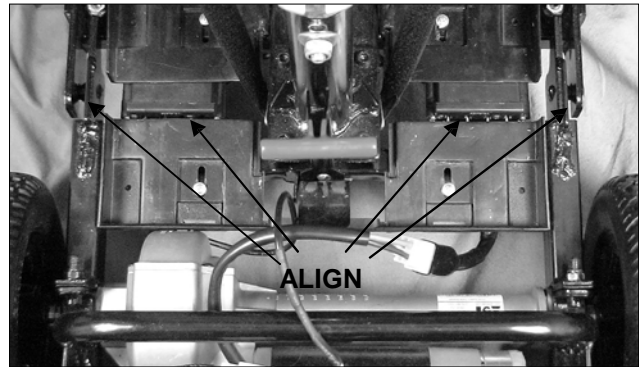

FIGURE 21. CORRECT FRAME ALIGNMENT
1. Position the front and rear sections of the frame as shown in figure 21 so that they align properly.